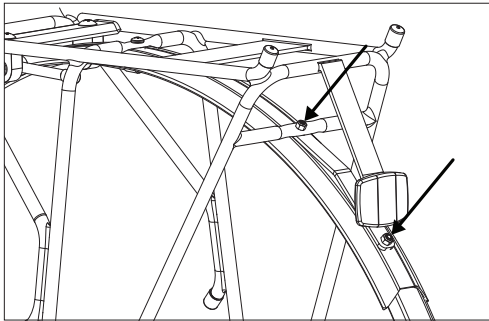

Fig. 43: Loosen fender tail bolts.
1. Loosen the two bolts holding the tail of the fender in place (Fig. 43).
3. Re-tighten the bolts to secure the fender tail in place (Fig. 43).